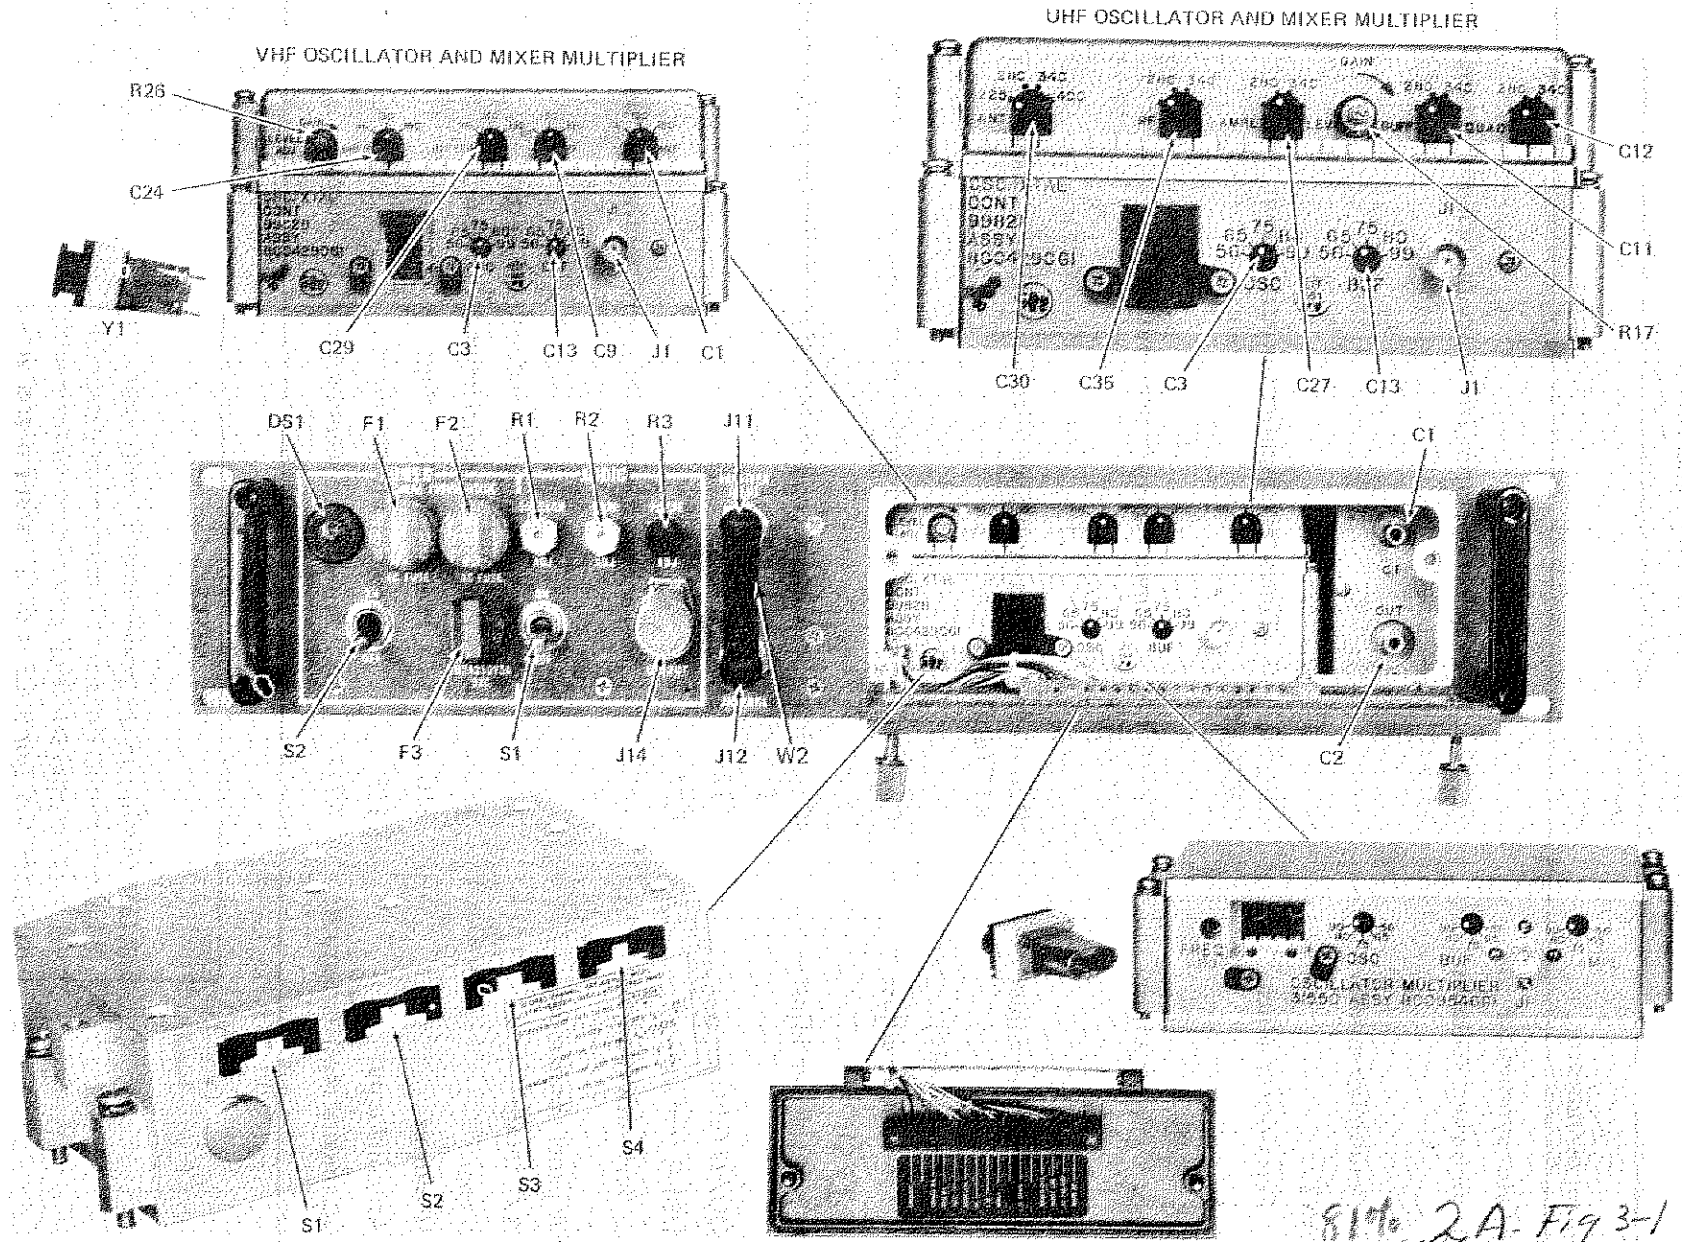

Figure 3-1. VHF/UHF Receiver Controls and Indicators
**3.2 CONTROLS AND INDICATORS.**- Controls and indicators are listed and defined in table 3-1 and illustrated in figure 3-1. No interlocks are used in the receivers.